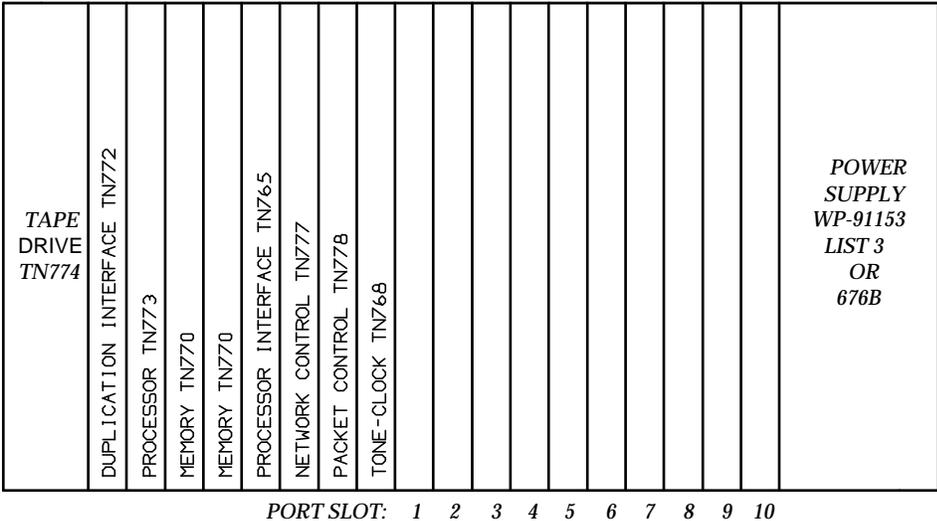

FIGURE 6-2. TN770 Location in J58890L Cabinet
2. See WARNING. At the J58890L-1 control cabinet, install the second TN770 memory circuit pack in the spare slot on the right side of the existing TN770 Memory circuit pack (see Figure 6-2).